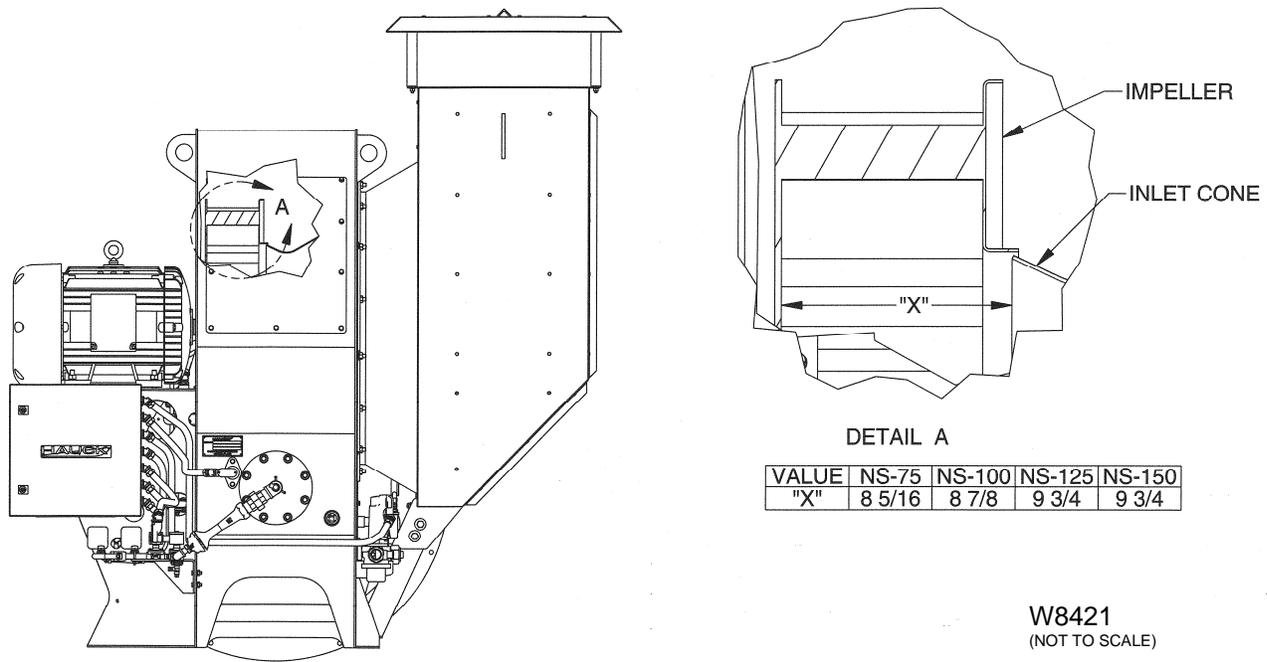

Figure 14. Proper Impeller Position
7. A periodic check of the fan (impeller/motor) vibration, measured in the vertical and horizontal directions at the motor bearings, is required. Should it be necessary to remove the fan impeller from the motor shaft, it is important to replace the fan impeller in the proper position. Consult Figure 14 for the impeller location, consult Hauck for installation instructions. A vibration check is required.